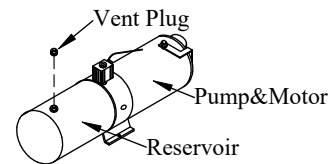

Figure 7: Vent plug.
7. **Install** the vent plug provided into the pump reservoir (Figure 7).